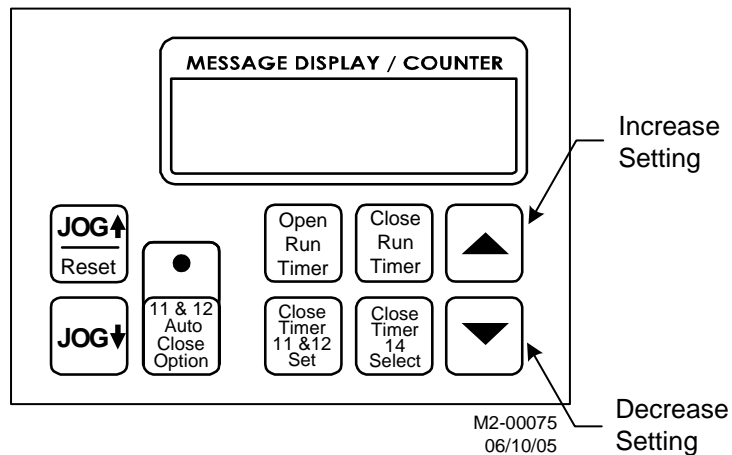

Figure 3-23: Raise/Lower Countdown Timer
2. Use the **UP** and **DOWN** arrow buttons to change the countdown time to the desired duration. The DYNALOGIX will automatically save any changes that you make. See Figure 3-23.